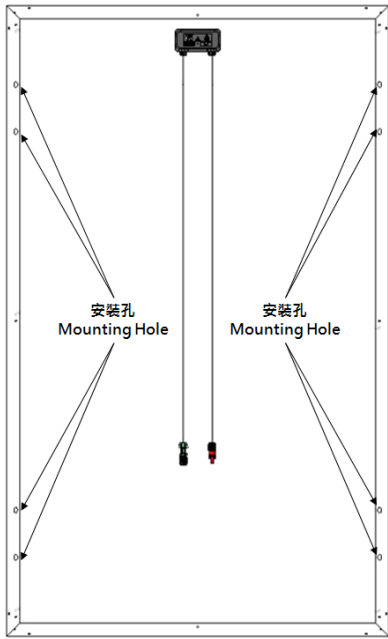

Figure 1: Module Mounting Hole Illustration. Please refer to the corresponding Module Data Sheet for detailed quantity, size and position of mounting holes.
- The frame of the Module is designed to include at least **8** symmetrical mounting holes (as illustrated in Figure 1, the quantity, size and position of mounting holes are different for each model; please refer to the corresponding Module Data Sheet for detailed information).